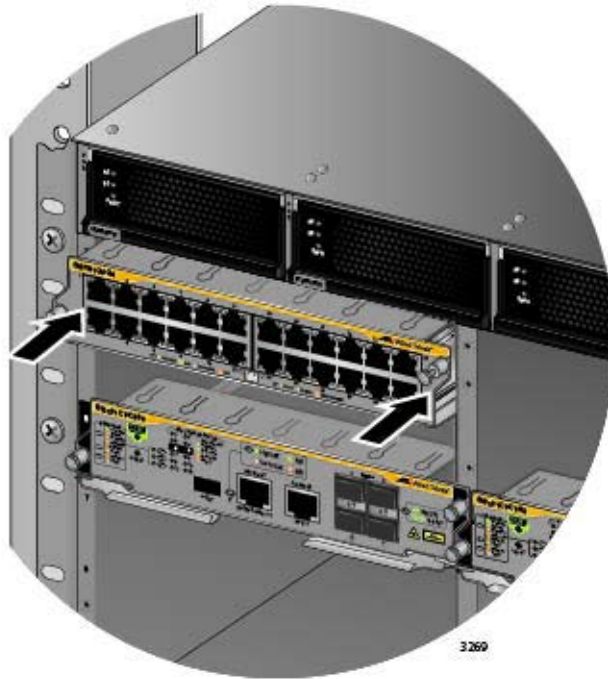

Figure 71. Seating an Ethernet Line Card on the Backplane Connector
6. When you feel the line card make contact with the connector on the backplane of the chassis, gently press on both sides of the faceplate to seat the card on the connector. Refer to Figure 71 on page 137.